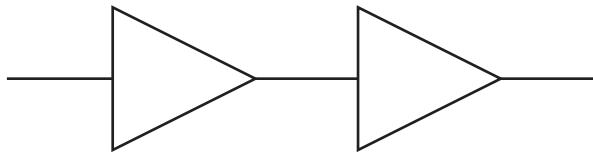

Figure 6: A cascade of two RF amplifiers.
- a) Two RF amplifiers are cascaded as shown in Fig. 6. What is the total gain of the cascade? What is the total noise figure?